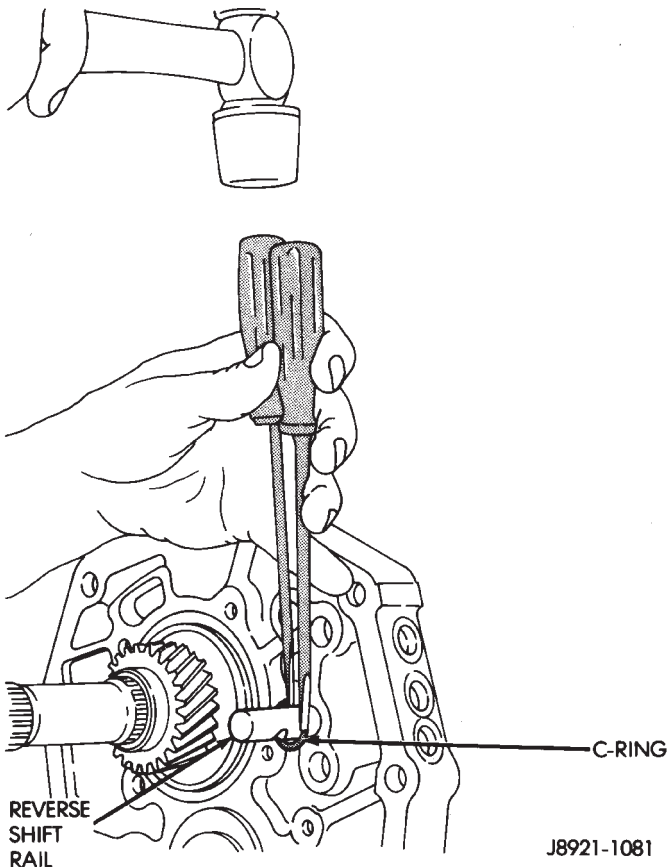

Fig. 51 Reverse Shift Rail C-Ring Removal
(12) Remove reverse shift rail C-ring with two equal length and size screwdrivers (Fig. 51).